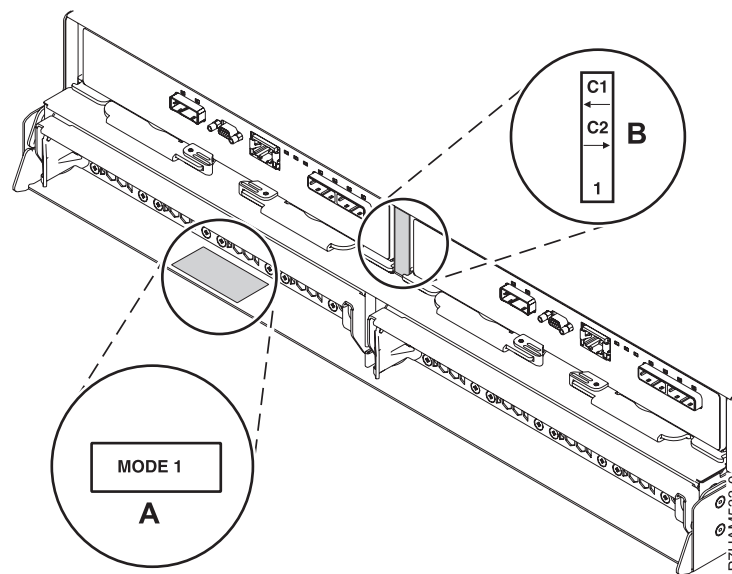

Figure 25. Mode sticker locations at the rear of the 58/87 disk drive enclosure
- a. Confirm the factory-set mode of the 58/87 disk drive enclosure by using information printed on stickers at the rear of the enclosure. Stickers are attached to the lower-left shelf of the chassis (A) and the center support between the enclosure services manager (ESM) modules (B). The stickers indicate whether the enclosure is set to mode 1, mode 2, or mode 4, as shown in Figure 25.